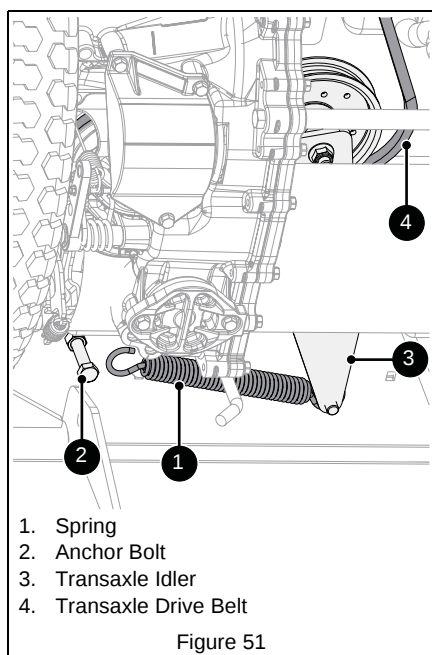

Figure 51
3. Under unit, slowly remove spring hook from anchor bolt to release transaxle idler tension. See Figure 51.